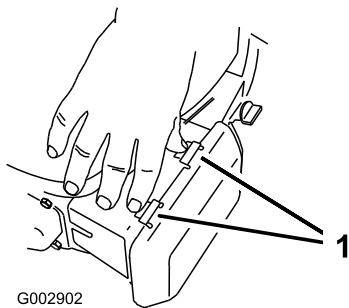

Figure 40
1. Press down on the latch tabs on top of the air cleaner cover (Figure 40).